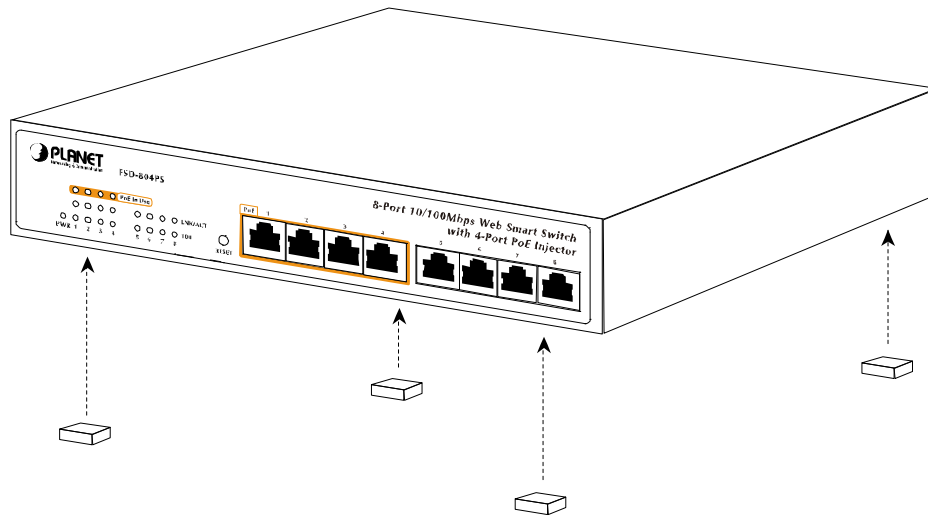

Figure 2-4 Attaching the rubber feet to the Switch
Step1: Attach the rubber feet to the recessed areas on the bottom of the Switch, as shown in Figure 2-4.